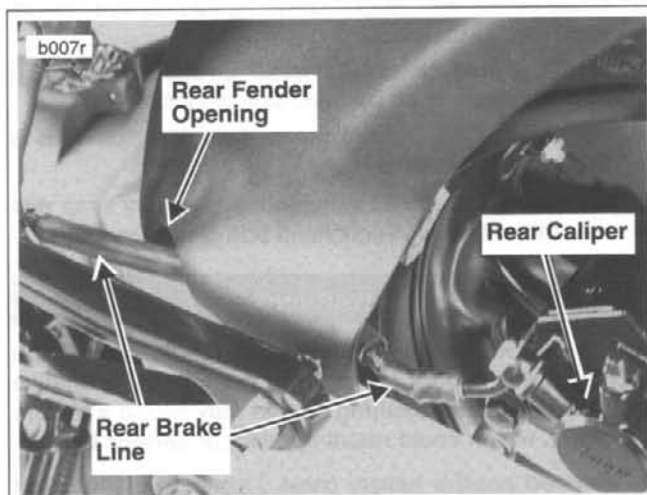

Figure 2-92. Rear Brake Line Routing
- See Figure 2-92. Working from the right side, install brake line and align metal portion of brake line with rear master cylinder. Route caliper side of brake line in front of tie bar and through rear fender opening to rear caliper.